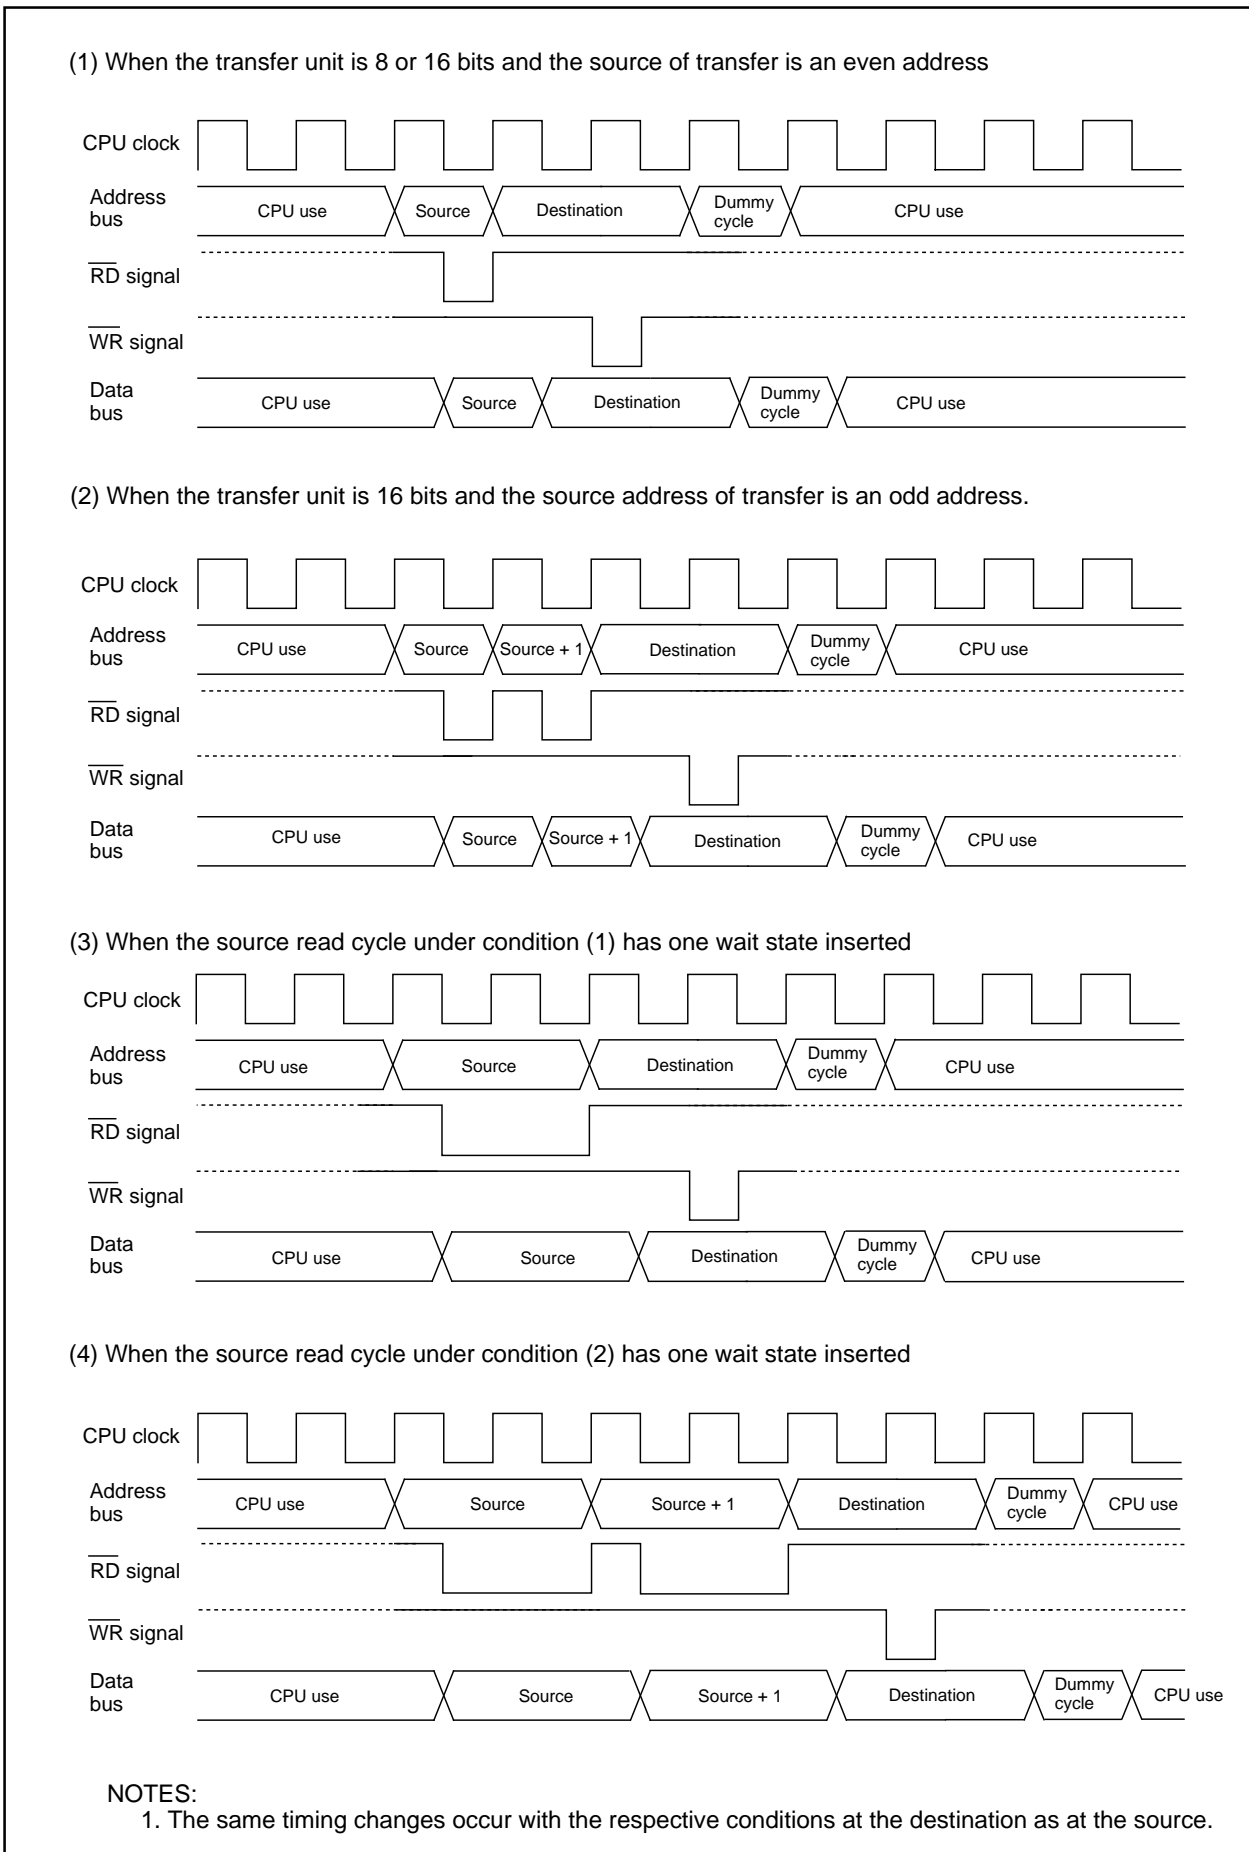

Figure 11.5 Transfer Cycles for Source Read
**Figure 11.5** shows the example of the cycles for a source read. For convenience, the destination write cycle is shown as one cycle and the source read cycles for the different conditions are shown. In reality, the destination write cycle is subject to the same conditions as the source read cycle, with the transfer cycle changing accordingly. When calculating transfer cycles, take into consideration each condition for the source read and the destination write cycle, respectively. For example, when data is transferred in 16 bit units and when both the source address and destination address are an odd address ((2) in **Figure 11.5**), two source read bus cycles and two destination write bus cycles are required.